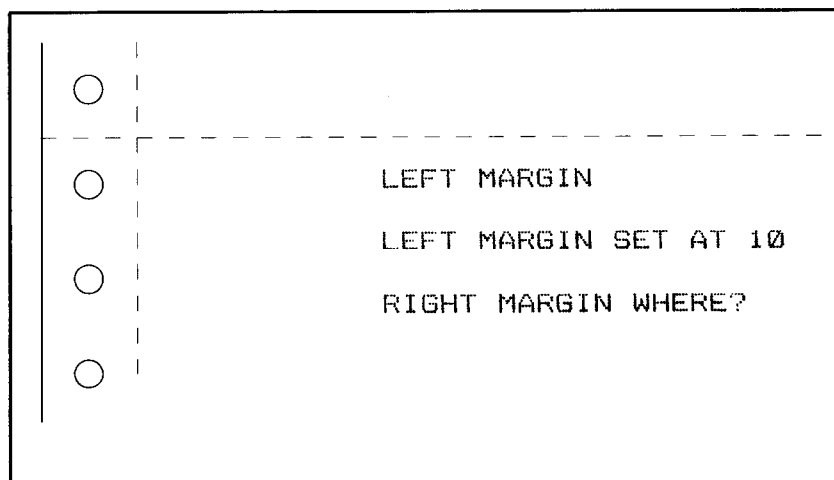

Figure 9-4. Right margin set incorrectly
Figure 9-4 shows the new listing, which did not print out at the position you specified. What happened? Well, the CHR\$(18) turned off Compressed Mode, but there was no change in the margin because the new right margin setting would have occurred on the wrong side of the current left margin (which is still set at 10). Remember, the FX simply ignores impossible settings.